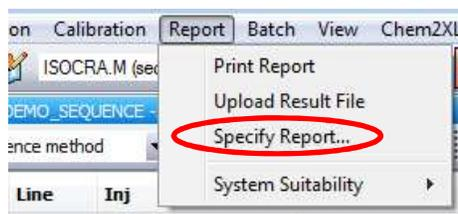

Figure 4.11 Specify Report Menu
15. After a report style has been added, select the ChemStation Report menu item then click *Specify Report...* (see Figure 4.11)